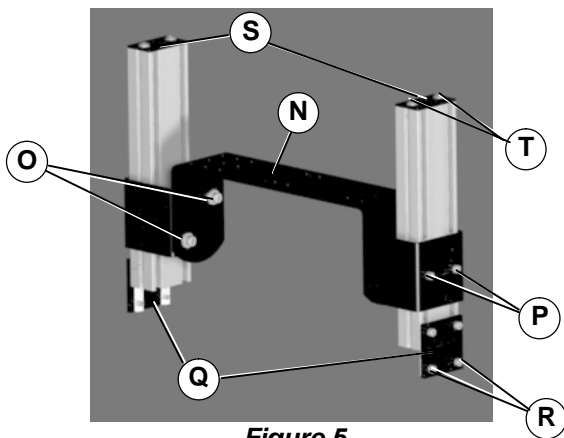

Figure 5
1. Typical components as shipped (Figure 5)
4. If installing an additional tier remove screws (T of Figure 5) and top plates (S).